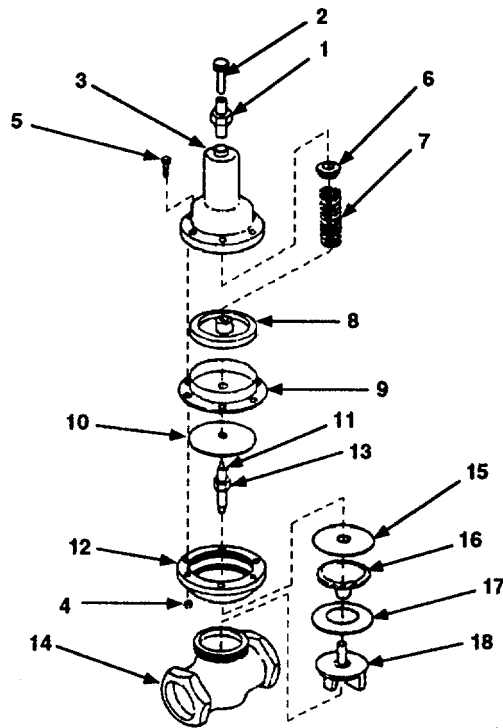

Figure 5-6. Pressure Regulating Valve Maintenance.
- a. Loosen jam nut (Figure 5-6, 1).
- b. Remove setscrew (2) and jam nut (1) from pressure valve cap (3).
- c. Remove six nuts (4) and bolts (5).